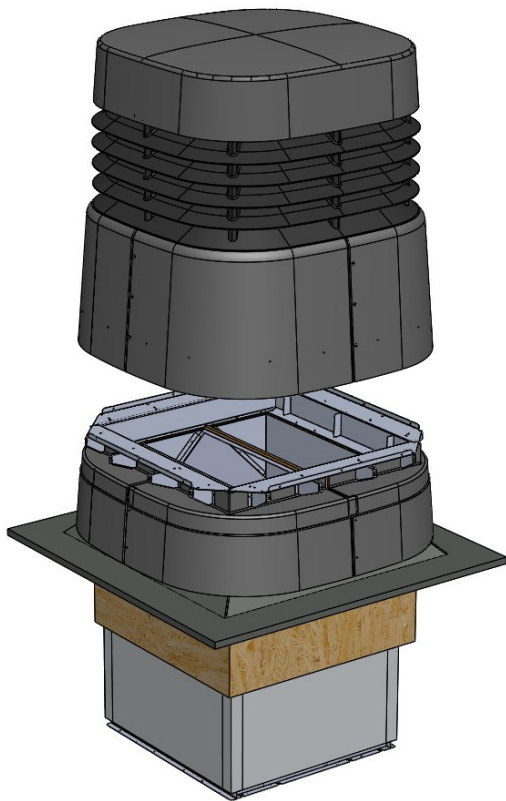

Figure 29 – Cowl position.
2. Lower the cowl terminal in to place – *see figure 29*.